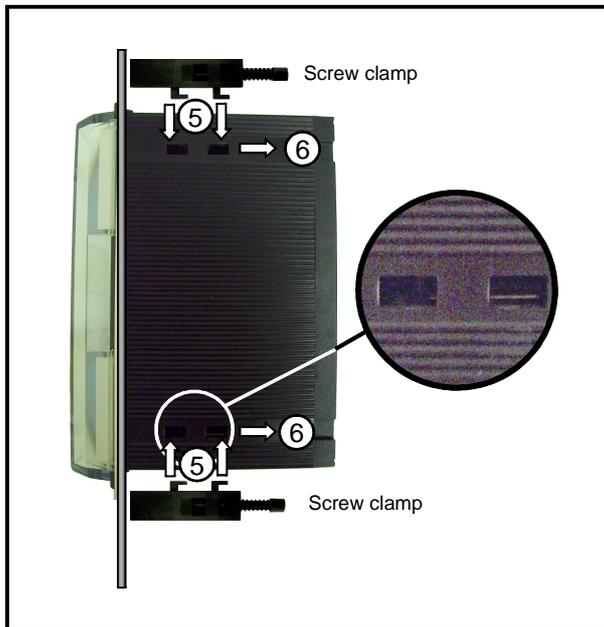

Fig. 3.5 – Inserting hooking clamps
7. Tighten the screws to secure the external frame of the cover to the front panel of the electric board (Fig. 3.5)